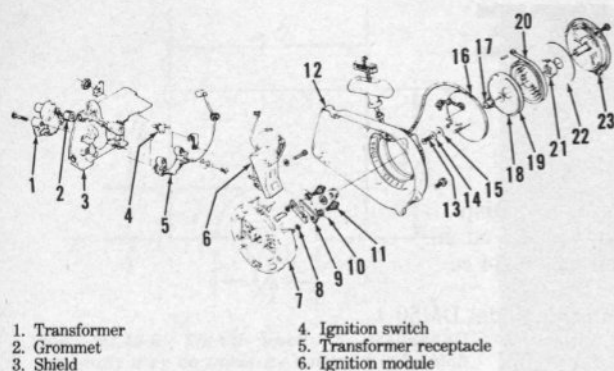

Fig. HL41-4—Exploded view of ignition system and rewind starter.
Connecting rod (11—Fig. HL41-4) rides on twelve caged bearing rollers (12). The crankshaft is supported by roller bearings (16) which are installed so lettered end is towards snap rings (15).